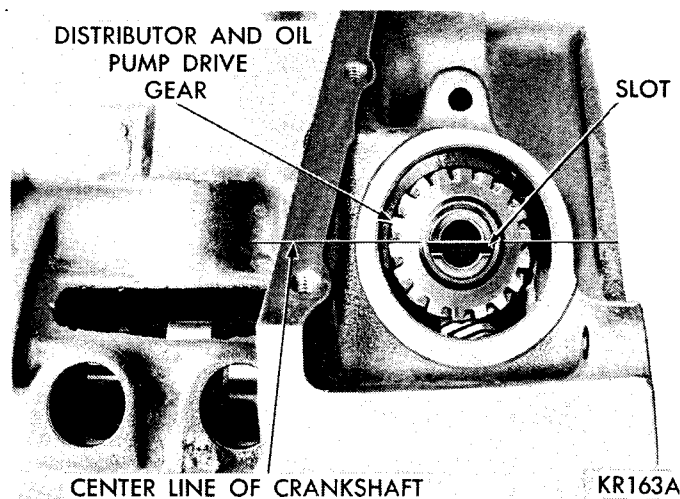

Fig. 25—Distributor Drive Gear Installation
- (1) Rotate crankshaft until No. 1 cylinder is at top dead center on firing stroke.
- (2) When in this position, the straight line on vibration damper should be under ("O") on the timing indicator.
- (3) Coat shaft and drive gear with engine oil.
- (4) Install shaft so that after gear spirals into place, it will index with oil pump shaft, so that the slot in top of drive gear will be parallel with center line of crankshaft, and offset in direction (Fig. 25).